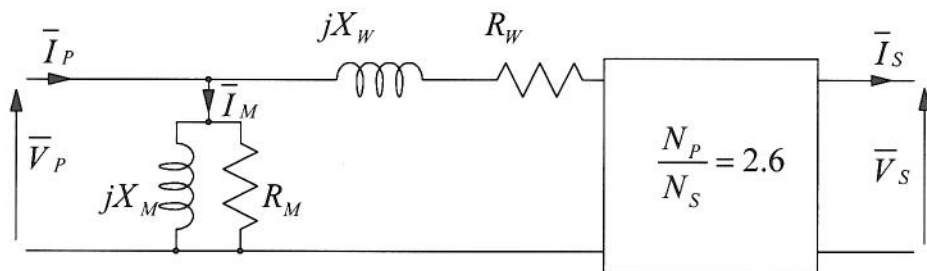

Figure Q4
- (b) A transformer with a turns ratio of 2.6:1 is represented by the equivalent circuit shown in figure Q4 with the parameter values shown below.